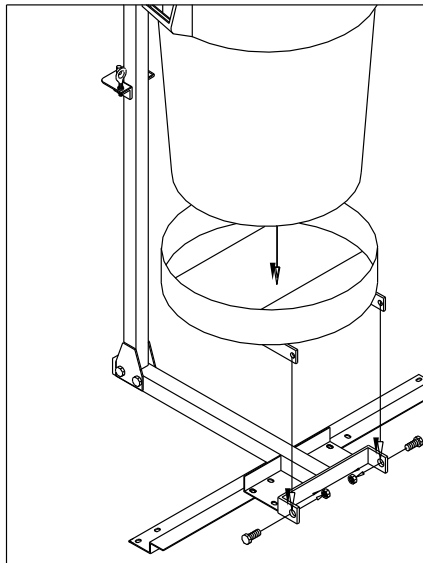

Fig. 5
5. Align brackets on container holder (35) to brackets on front of frame. (Fig. 5) Slip spacers (36) from bolt bag thru each hole and secure with 5/16" flange nut per side. Fit container (19) into holder. Adjust bolt tension so that holder can support container in tilted position.